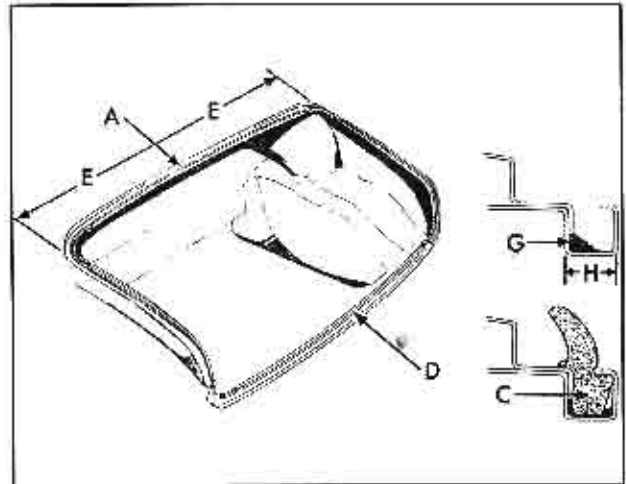

Fig. 3-52 Deck Lid Weatherstrip Installation
3. Using a pressure-type gun, flow a bead of weatherstrip cement into the gutter to seal the welded joint where the small "U"-shaped gutter is attached to the rear compartment opening, shown in Fig. 3-52 "G".
weatherstrip into the top of the gutter along that portion of the gutter marked "E", in Fig. 3-52.